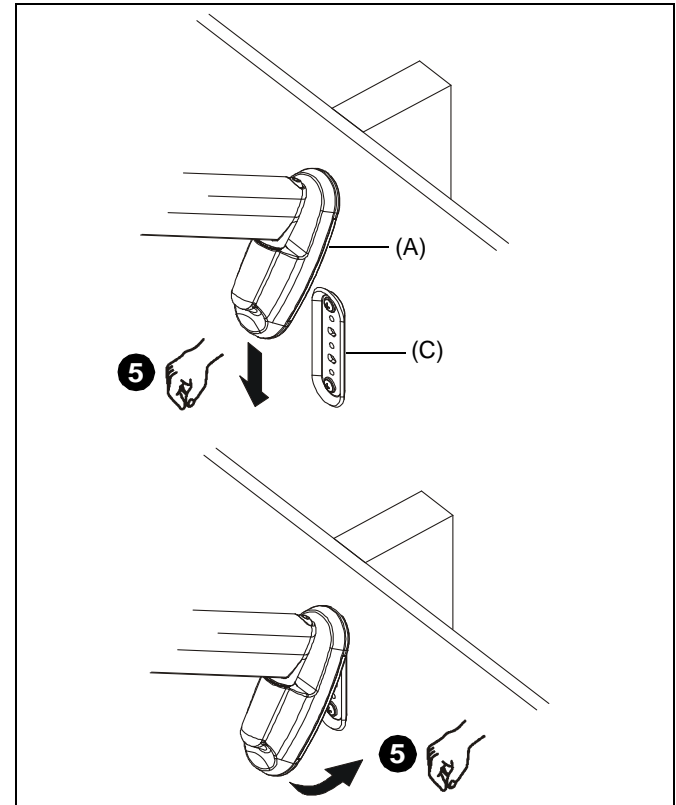

Figure 2
5. Insert top of mount (A) over lip on top of bracket (C). (See Figure 2) Swing mount (A) down flush against wall.